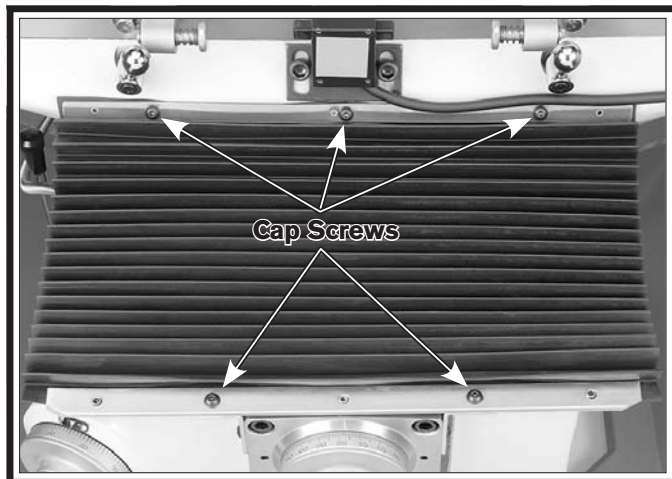

Figure 10. Front way cover installed.
1. Remove the five button-head cap screws shown in **Figure 10** from the front of the saddle and knee, position the pleated way cover in place, then secure it with the removed cap screws.